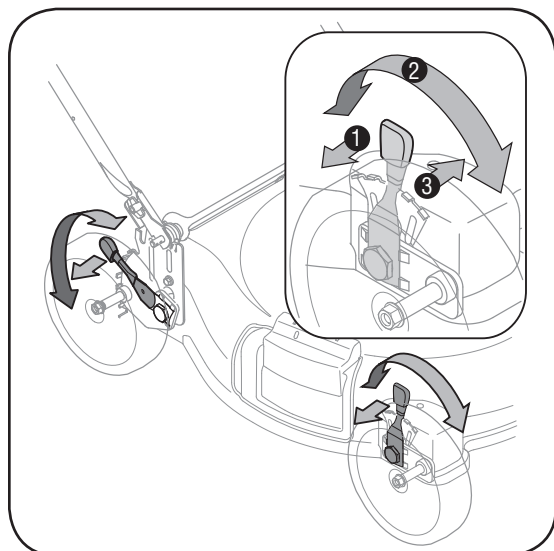

Figure 3-8: Use adjustment levers to change height.
2. Move it to any one of the positions for desired cutting height, Figure 3-8. Make sure that each wheel is positioned at the same height.